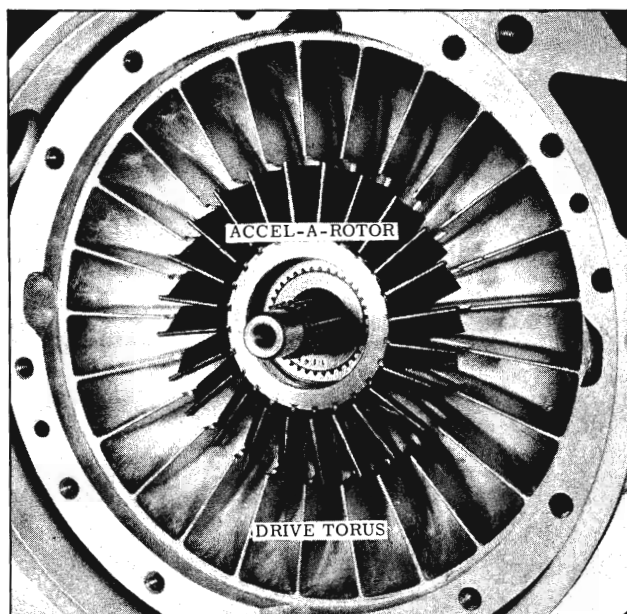

Fig. 3-112 Accel-A-Rotor Installation
4. Install Accel-A-Rotor into drive torus aligning splines and position Accel-A-Rotor so that the I.D. of the hub of the Accel-A-Rotor is flush with the planet carrier shaft. (Fig. 3-112) A light tap with a plastic hammer may be required.